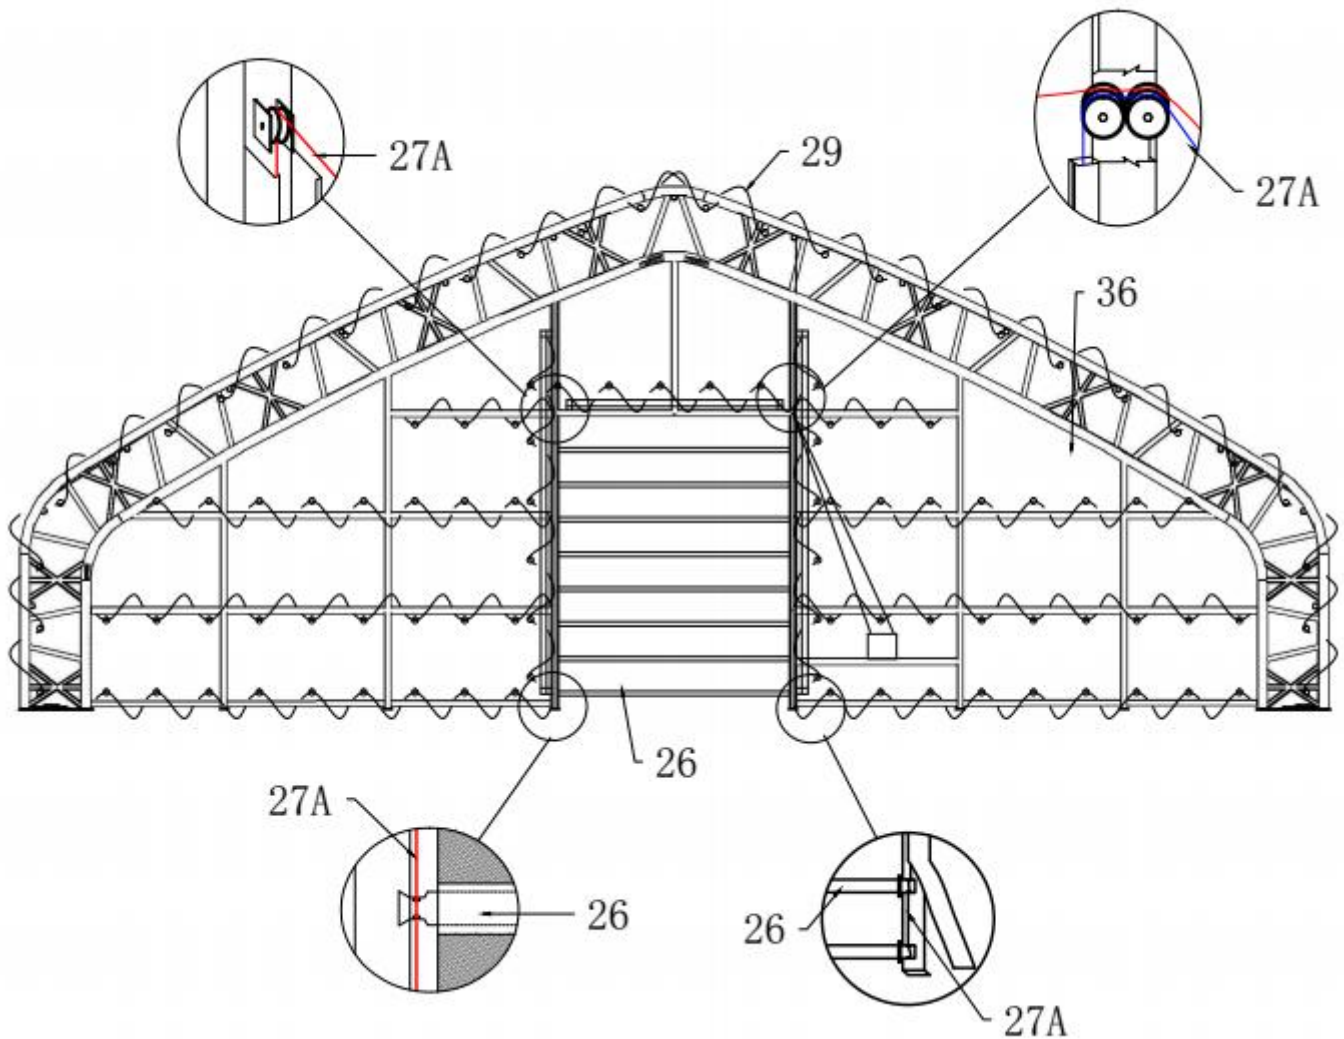

Figure 5
1. Inset the tubes in door (Part NO.26) into front and back Mechanical door through the pockets on covers (see Figure 5), assemble the front door by using Bolt 10x90 (NO.25), and Clips (No.19), make the cover well fold to the frame and tension the cover, finally tidy the front door covers by using Rope (No.29).
2. Same way to assemble the Back door. (See Figure 5)